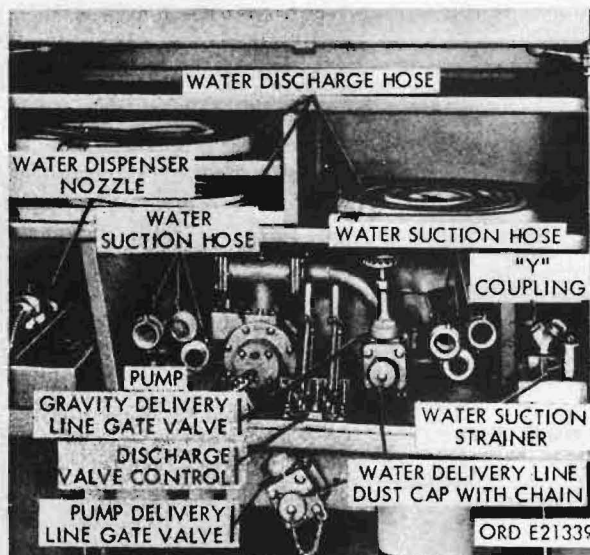

Figure 70. Water tank truck rear compartment showing stowed equipment
(3) Water tank truck discharge valve control (fig. 70). This control, located in the rear compartment of the tank body, has two operating levers to control the discharge valves which regulate water flow from the tank sections.
(4) Water tank truck delivery line gate valves (fig. 70). The two water tank truck delivery line gate valves, located in the rear compartment of the tank body, control the delivery line flow.